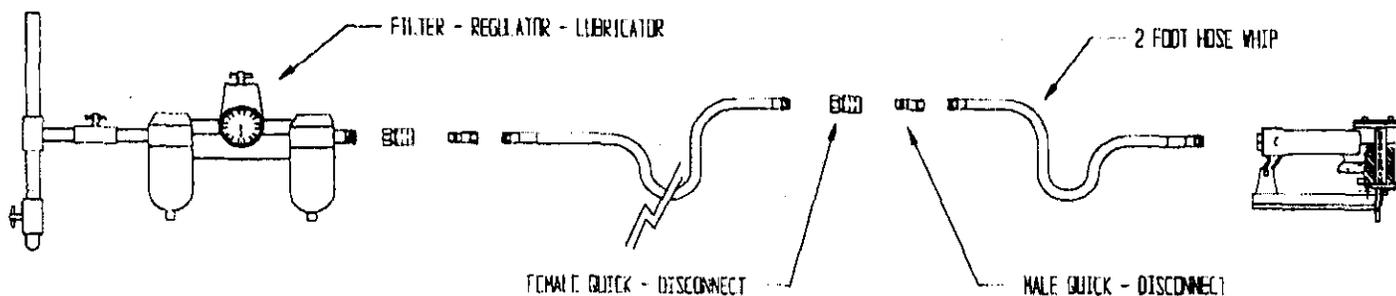

Figure 1-Air Supply Line
Refer to Figure 1.
- A filter-regulator-lubricator system is required and should be located as close to tool as possible (see Figure 1). A distance of less than 15 feet is recommended.